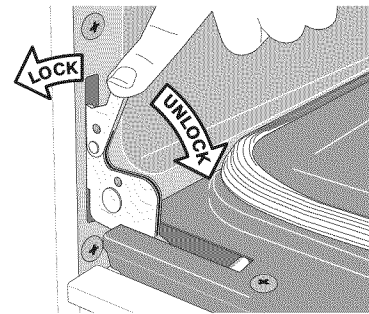

Figure 45: Hinge lock/unlock positions
2. Pull the door hinge locks on both left and right door hinges down from the oven frame completely towards the oven door (Figure 45). A tool such as a small flat-blade screwdriver may be required.
4. Push the door hinge locks up towards and into the oven frame on both left and right oven door hinges (Figure 45) to the locked position; then, close the oven door.